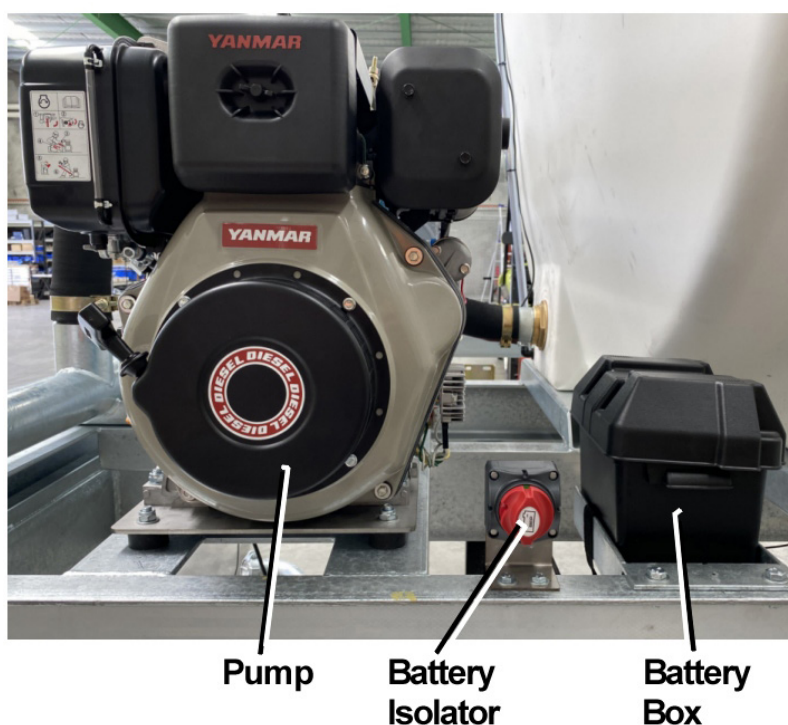

Figure 2 – Optional Pump Engine and Battery (Diesel unit shown)
6. Where a petrol or diesel pump option is fitted, ensure the 12 volt battery is fully charged and correctly connected to the pump unit's engine, refer to Figure 2. Refer to the supplied pump unit's manual and prepare the engine for use, such as filling its tank with fuel.